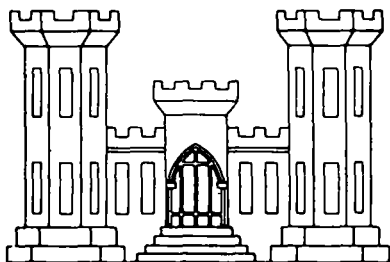

Figure 1. Engineer insignia.
b. The traditional turreted castle (fig. 1) was first authorized as the Corps of Engineers insignia in 1840. Previously it had been worn as part of the uniform of the Corps of Cadets at West Point. At that time, the U. S. Military